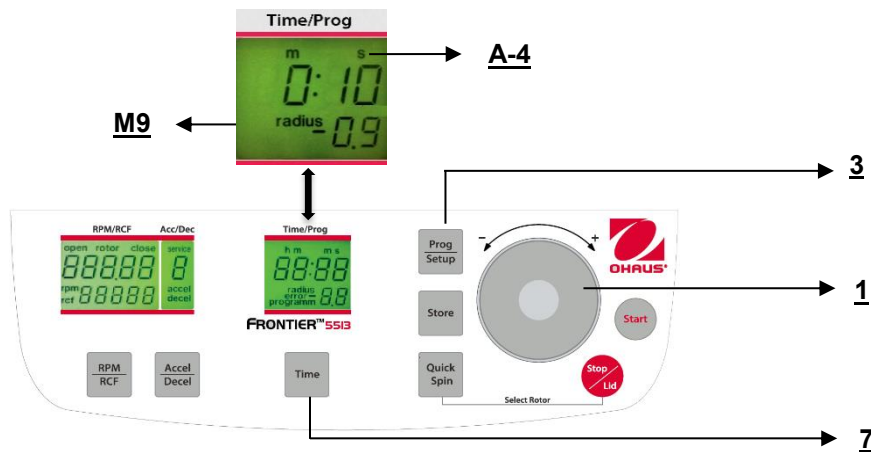

Figure. 19
Close the lid, then press the key "**Time**" (7) (refer to figure 19) and the key "**Prog/Setup**" (3) at the same time and hold them.